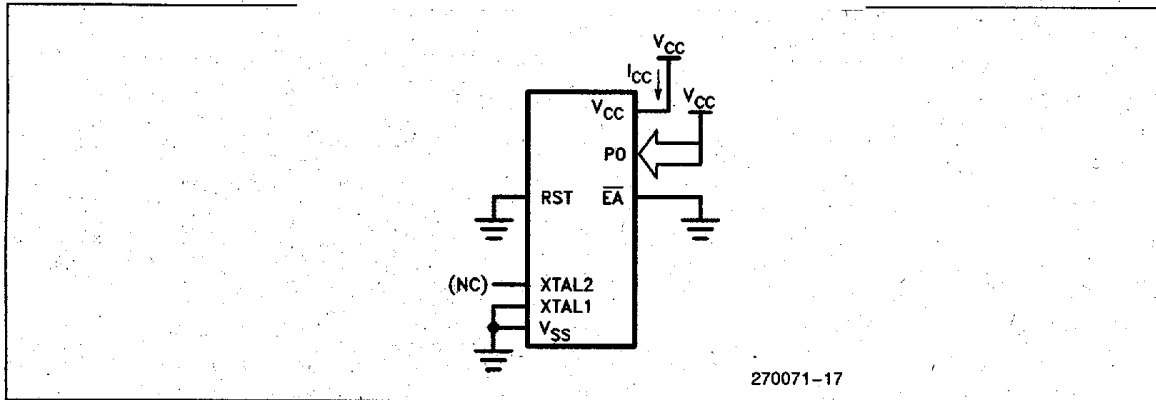

Figure 8. I_{CC} Test Condition, Power Down Mode. All other pins are disconnected.
5. Power Down I_{CC} is measured with all output pins disconnected; XTAL1 = V_{SS} ; XTAL2 N.C.; Port 0 = V_{CC} ; $\overline{EA} = RST = V_{SS}$ (see Figure 8).